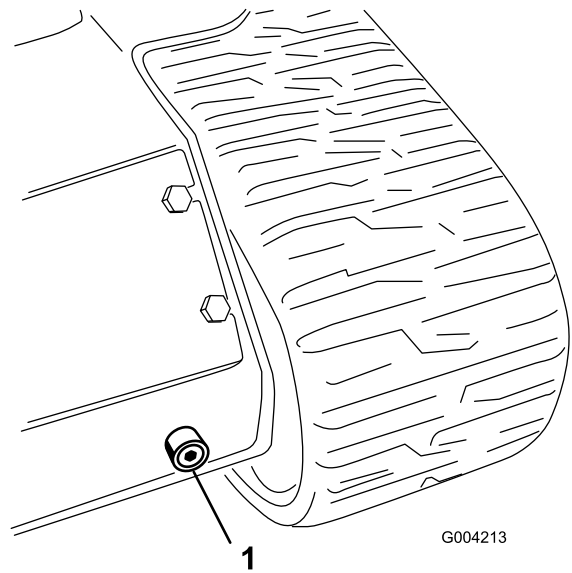

Figure 63
6. Place a large drain pan capable of holding 57 L (15 US gallons) under the drain plug on the front of the machine (Figure 63).
7. Remove the drain plug and allow the oil to drain into the pan (Figure 63).